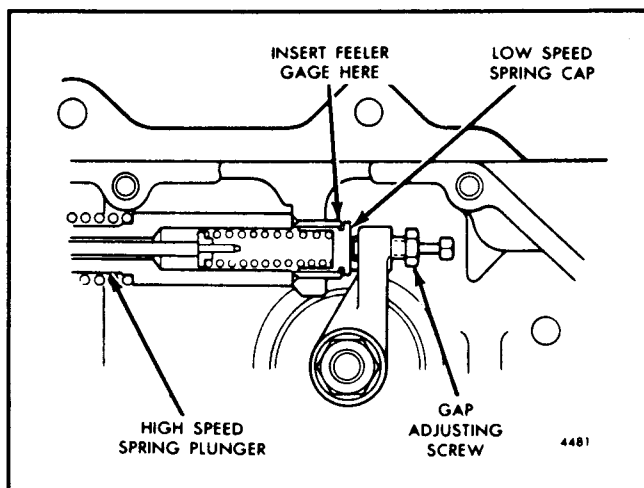

Fig. 3 - Governor Gap Adjustment
6. Check the gap between the low-speed spring cap and the high-speed spring plunger (Fig. 3) with a .0015" feeler gage. If the gap setting is incorrect, reset the gap adjusting screw. If the setting is correct, the .0015" movement can be seen by placing a few drops of oil into the governor gap and pressing a screw driver against the gap adjusting screw. Movement of